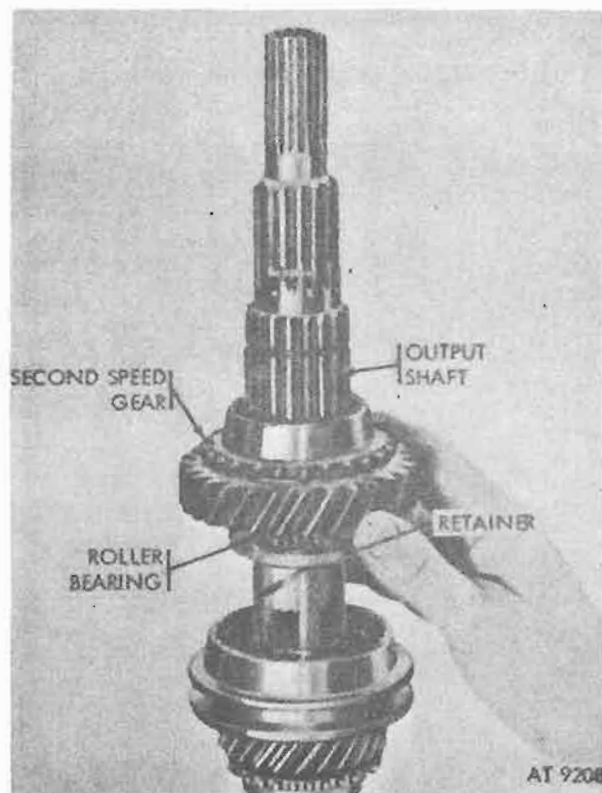
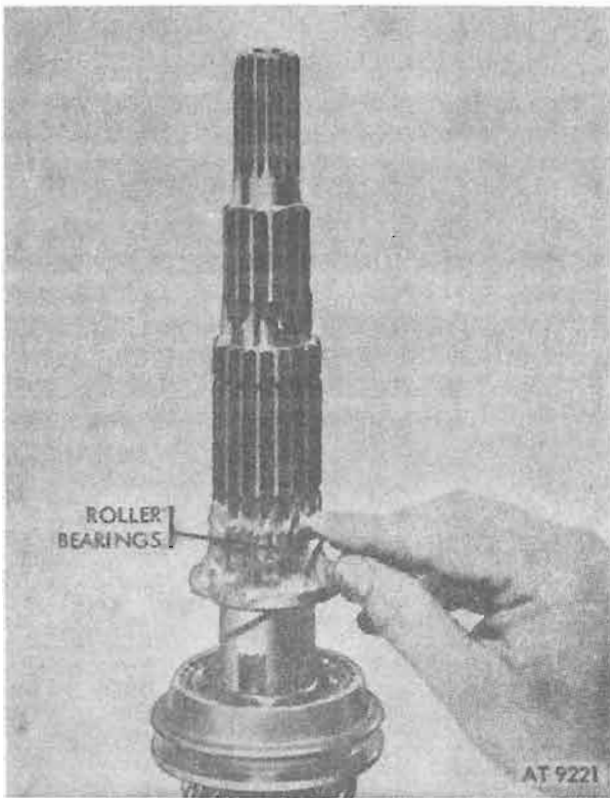

Figure 8-75. Second speed gear and roller bearings.
Figure 8-88. Positioning roller bearing to output shaft.
j. Remove second speed gear and 37 roller bearings from output shaft (fig. 8-75).
d. Install 37 roller bearings to output shaft (fig. 8-88), and install second-speed gear by sliding down over bearings and against the retainer. Refer to figure 8-75.